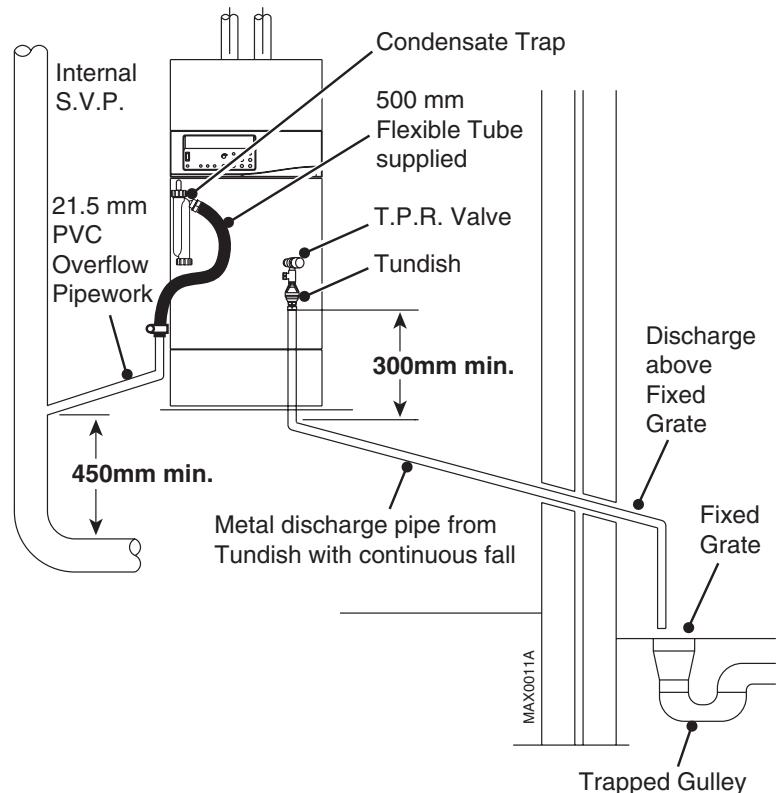

Fig. 7
a. be at least one pipe size larger than the nominal outlet size of the safety device unless its total equivalent hydraulic resistance exceeds that of a straight pipe 9m long i.e. discharge pipes between 9m and 18m equivalent resistance length should be at least two sizes larger than the nominal Outlet size of the safety device, between 18 and 27m at least 3 sizes larger, and so on. Bends must be taken into account in calculating the flow resistance. Refer to Fig. 7, Table 1 and the worked example.